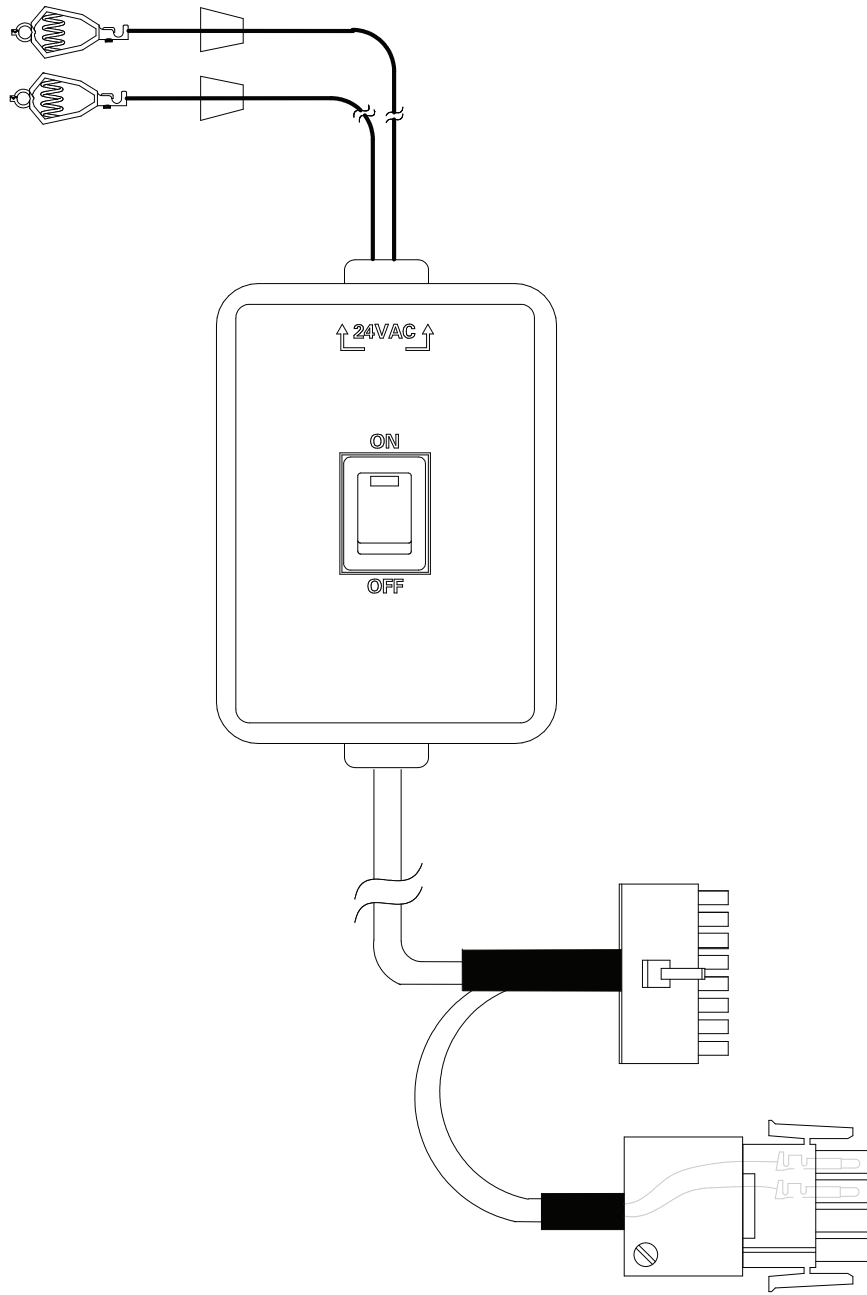

Fig. 1 - ECM Motor Tester
2. Unplug the 16-pin connector for ECM 2.0 and 2.3 motors or the 4-pin connector for ECM 3.0 motors. Leave the 5-pin high voltage plug connected at the ECM blower motor. Plug the 16-pin connector for ECM 2.0 and 2.3 motors or the 4-pin connector for ECM 3.0 motors from the ECM Tester, shown in Fig. 1, to the ECM motor.